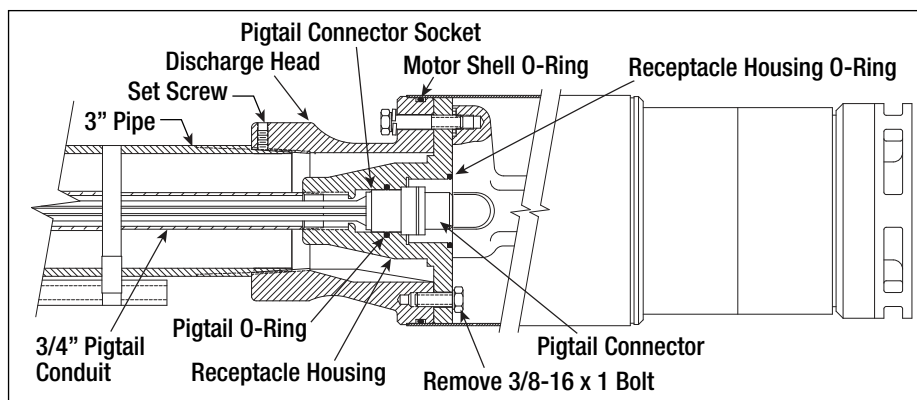

Figure 20. Discharge Head Components
7. Remove the o-ring from the sidewall of the pigtail connector socket in the Receptacle Housing and discard (see Figure 20). Install a new pigtail connector o-ring (P/N 072-712-1) into the groove in the side wall of the pigtail connector socket and lubricate with petroleum jelly.
10. Remove and discard the motor shell o-ring (see Figure 20). Replace with new o-ring (P/N 072-714-1) and lubricate it with petroleum jelly.
12. Orient the pump/motor assembly in position by starting the locating pin into the locating pin hole in the receptacle housing referred to above. The mechanical interlocking dowel pin will engage into a recessed cavity in the motor first. Gently push the motor into place until the shell starts to pass over the motor shell o-ring (see Figure 20). Position the four machine bolts into the bolt holes and start the threads. Draw all bolts down evenly until all are snug. After all bolts are snug, torque bolts to 24-34 ft-lbs (32-46 N•m).
6. At the Receptacle Housing, pull out the pigtail connector/wiring and set it aside (see Figure 20).
7. Remove the 3/8-16 x 1" (see Figure 20) that secures the Receptacle Housing to the Discharge Head and pull the Receptacle Housing/conduit from the 3" pipe. Be careful not to damage the brass conduit sleeve at the Extracta end of the conduit as you remove this assembly. Set this assembly aside.
9. Loosen the Discharge Head set screw (see Figure 20) and unscrew the Discharge Head from the 3" pipe.
21. Install the pigtail connector o-ring into the groove in the side wall of the pigtail connector socket (see Figure 20) and lubricate with petroleum jelly.
25. Remove and discard the motor shell o-ring (see Figure 20). Replace with new o-ring from the kit (item 11, Figure 27) and lubricate with petroleum jelly.
27. Orient the pump/motor assembly in position by starting the locating pin into the locating pin hole in the Receptacle Housing referred to above. The mechanical interlocking dowel pin will engage into a recessed cavity in the motor first. Gently push the motor into place until the shell starts to pass over the motor shell o-ring (see Figure 20). Position the four machine bolts into the bolt holes and start the threads. Draw all bolts down evenly until all are snug. After all bolts are snug, torque bolts to 24-34 ft-lbs (32-46 N•m).